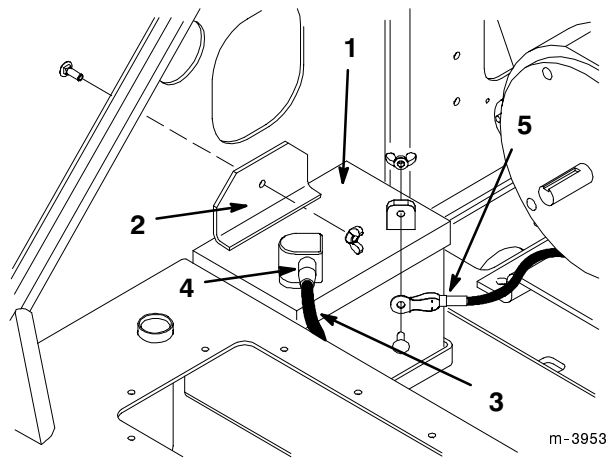

Figure 3
1. Remove the wing nut and bolt securing the battery clamp and strip (under the clamp) and remove the clamp and strip (Fig. 3).
- 9. Install the battery into the chassis (Fig. 3).
- 10. Secure the battery in the chassis with the battery clamp, strip, and wing nut (Fig. 3).
- 11. Using the bolt and wing nut supplied with the battery, connect the positive (red) cable to the positive (+) battery post (Fig. 3). Slide the rubber cover over the battery post.
- 12. Using the bolt and wing nut supplied with the battery, connect the negative (black) cable to the negative (-) battery post (Fig. 3).